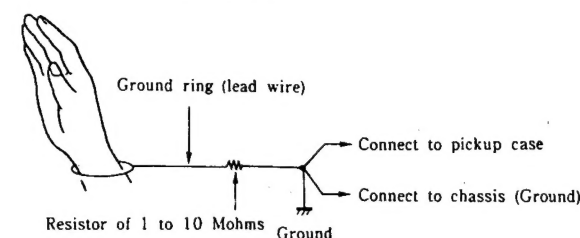

Fig. 13
### (2) Handling the unit mechanism (Fig. 13)
When handling the pickup mechanism and the unit mechanism, use a ground ring such as the one illustrated in Fig. 13. (A ground ring can be constructed using ordinary lead wire.)